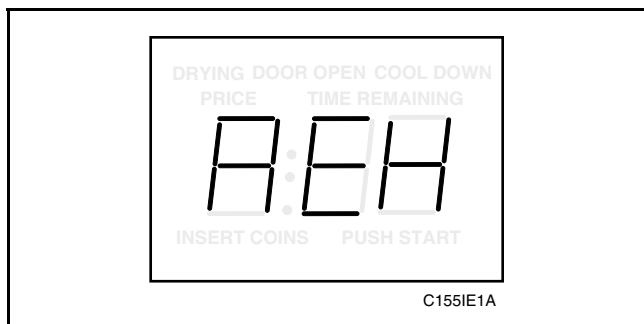

Figure 35
3. Press the LOW TEMP (+) pad or the NO HEAT (-) pad to scroll through the programmable options until “AEH” appears in the VFD, *Figure 35*.